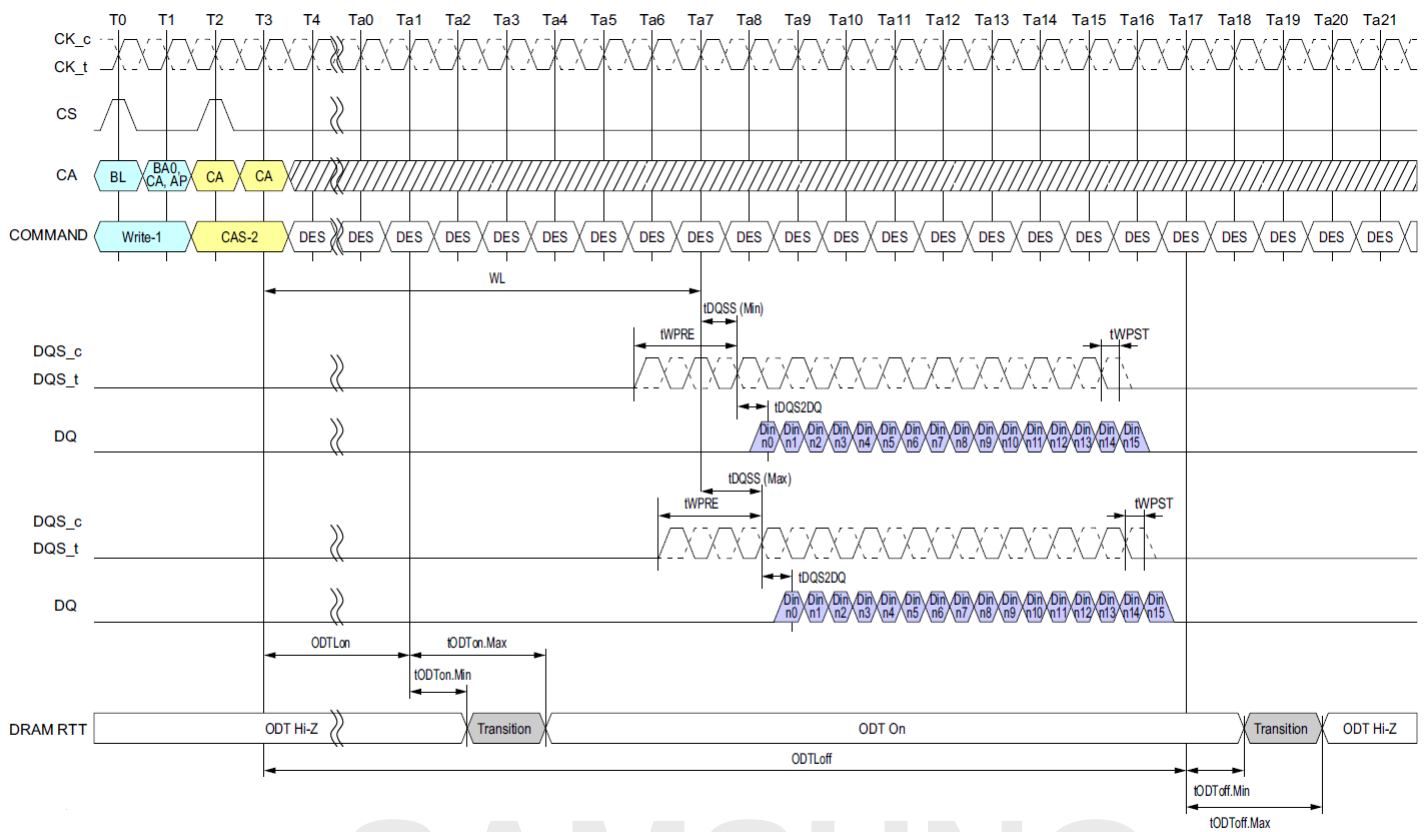

Figure 129. Asynchronous ODTon/ODToff Timing
1) ODTLon is referenced from CAS-2 command. See Figure 129.